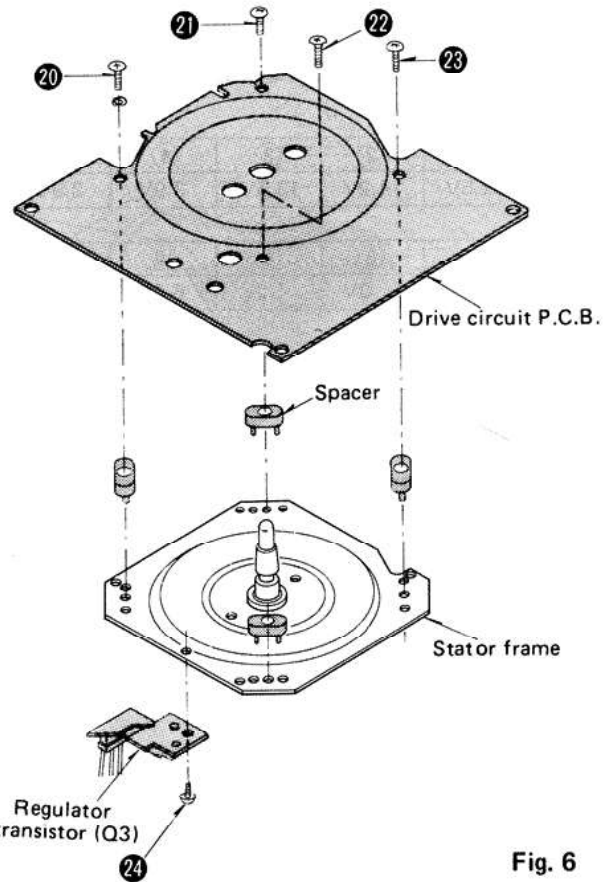

Fig. 6
1. Remove the 4 setscrews (Fig. 6 : 20 ~ 23) of drive circuit P.C.B.
1. Remove the setscrew 24 in Fig. 6.